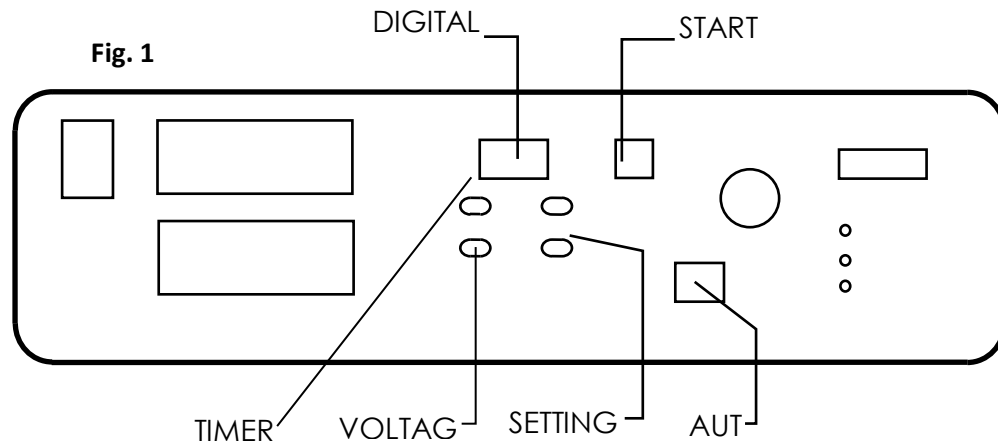

Fig.2
- Sharpen the carbon rods and insert them into the rod evaporator source. See fig. 2 for display.